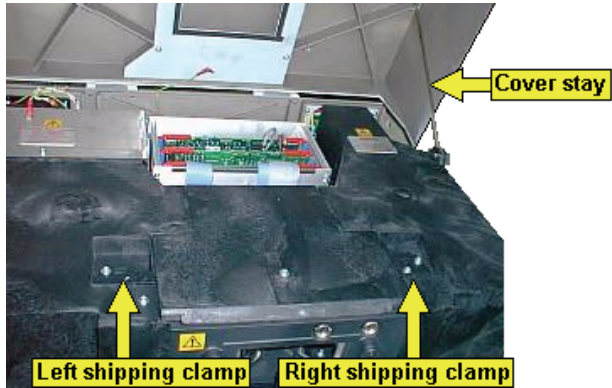

Figure 7 Inside the LS 55
3. Lift the main cover and rest it on the stay, as shown in Figure 7. The shipping clamps are now accessible.